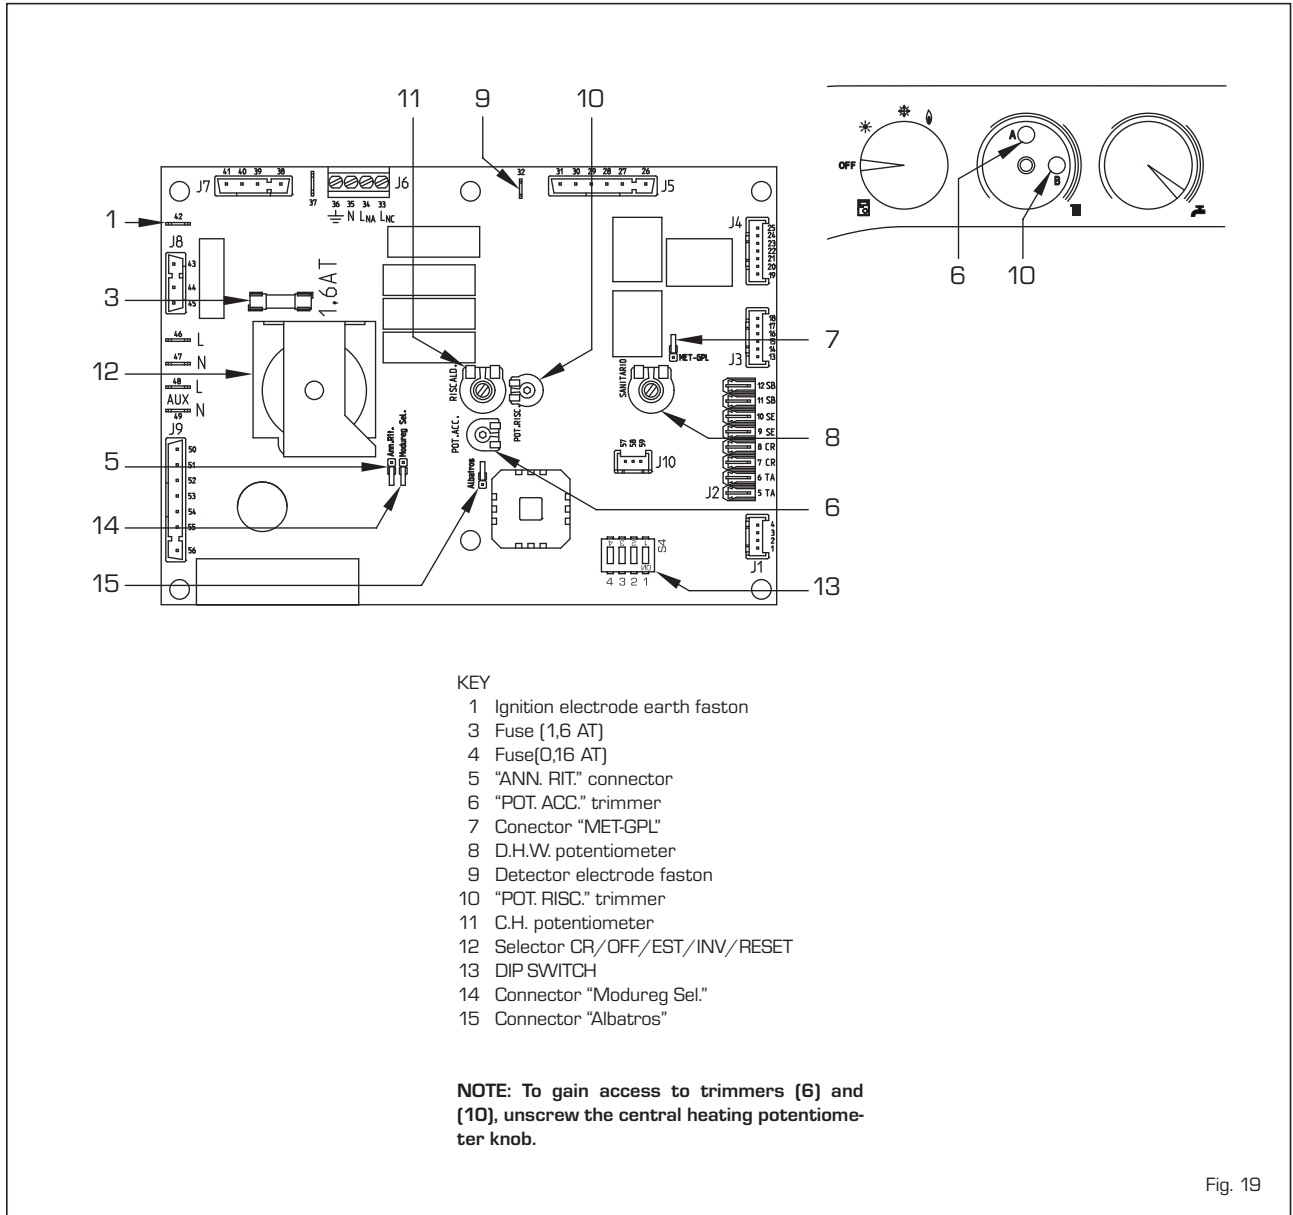

Fig. 19
- "POT. RISC." trimmer (10 fig. 19)
- "POT. ACC." trimmer (6 fig. 19)
- "MET-GPL" connector (7 fig. 19)
- "ANN. RIT." connector (5 fig. 19)
- DIP SWITCH (13 fig. 19)
- "Modureg Sel." connector (14 fig. 19)
- "Albatros" connector (15 fig. 19)